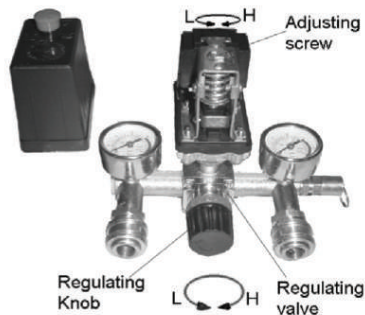

Fig.3
- 1) The compressor is controlled by pressure switch when normal working. It can be stopped automatically as pressure increasing to the max and restart as pressure decreasing to the min. The rated pressure has been adjusted when produced. Don't change it carelessly. As soon as motor switched off the compressed air in the discharge pipe should be released through the release valve under the switch. This is the necessary condition for restart, or the motor will be damaged. The rated pressure can be adjusted by turning the adjusting bolt of the switch (Fig.3).
- 2) The output pressure of compressed air can be adjusted by regulating valve. Pull up the knob of regulation valve and turn it clockwise or counterclockwise to increase or decrease the pressure (Fig.3).